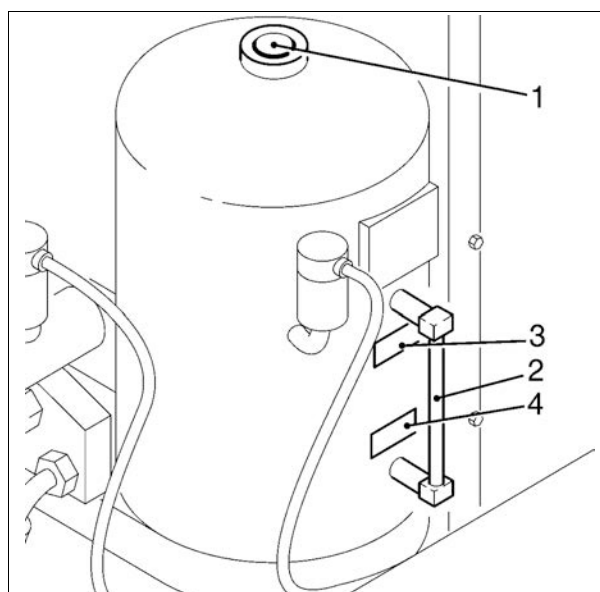

Fig. 14
- The oil level is checked with the help of the transparent plastic tube at the pressure reservoir (- 2 - Fig. 14) after every stop and at regular intervals. If required, top up oil
- Check the oil level in the pressure reservoir (see also chapter 6.5). (Fig. 14)